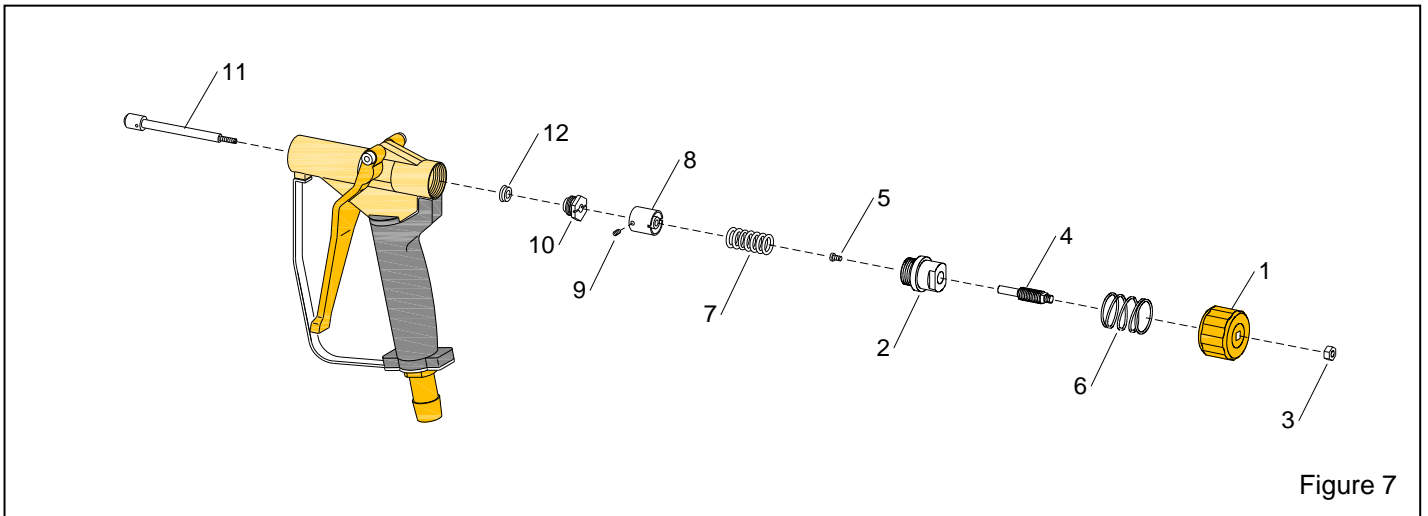

Figure 7
8.3 Grip and Trigger Assembly, Figure 7